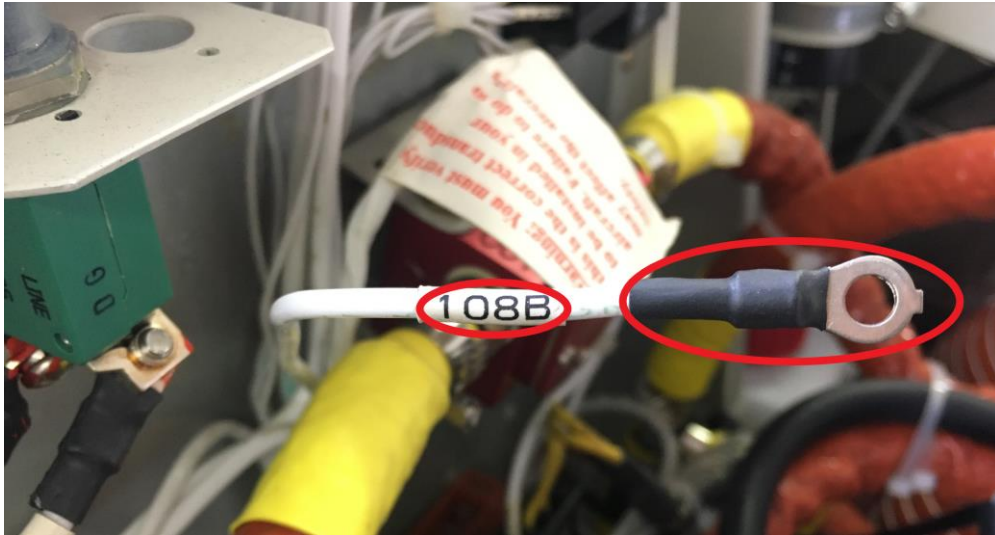

Fig. 15: Wire insulation
13) Use prepared heatshrink insulation for the lug. (See Fig. 15)